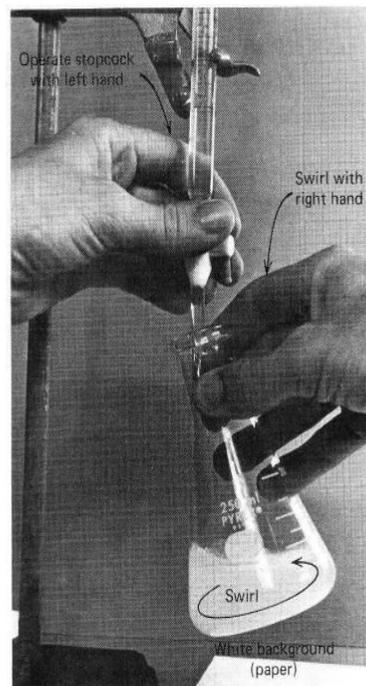
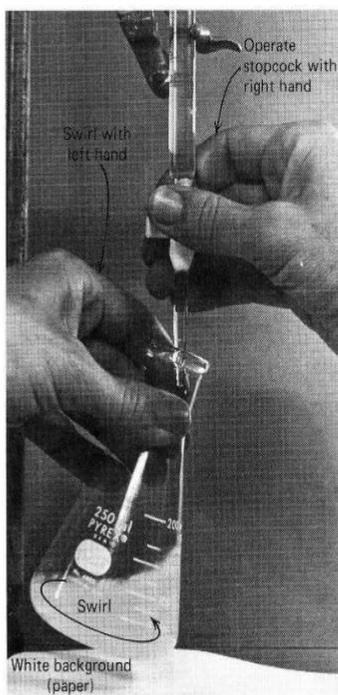

Figure T.16h Titration technique for right-handers.
Figure T.16i Titration technique for left-handers.
3. **Operation of the Buret.** During the addition of the titrant from the buret, operate the stopcock with your left hand (if right-handed) and swirl the Erlenmeyer flask with your right hand (Figure T.16h). This prevents the stopcock from sliding out of its barrel and allows you to maintain a normal, constant swirling motion of the reaction mixture in the receiving flask as the titrant is added. The opposite procedure, of course, is applicable if you are left-handed (Figure T.16i). Fill the buret after each analysis. Use an Erlenmeyer flask as a receiving flask, rather than a beaker, unless the solution is to be stirred with magnetic stirrer.